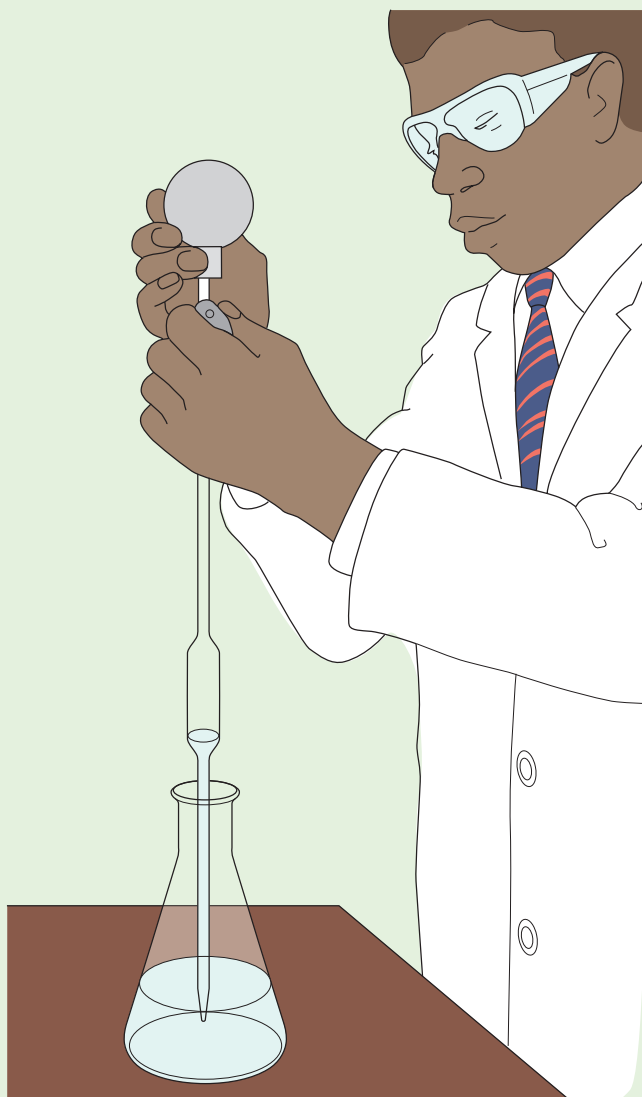

Figure 8.23 Exactly 25.0 cm^3 of sodium hydroxide solution is pipetted into a conical flask.
- 1 25 cm^3 of sodium hydroxide solution is pipetted into a conical flask to which a few drops of phenolphthalein indicator have been added (Figure 8.23). Phenolphthalein is pink in alkaline conditions but colourless in acid.